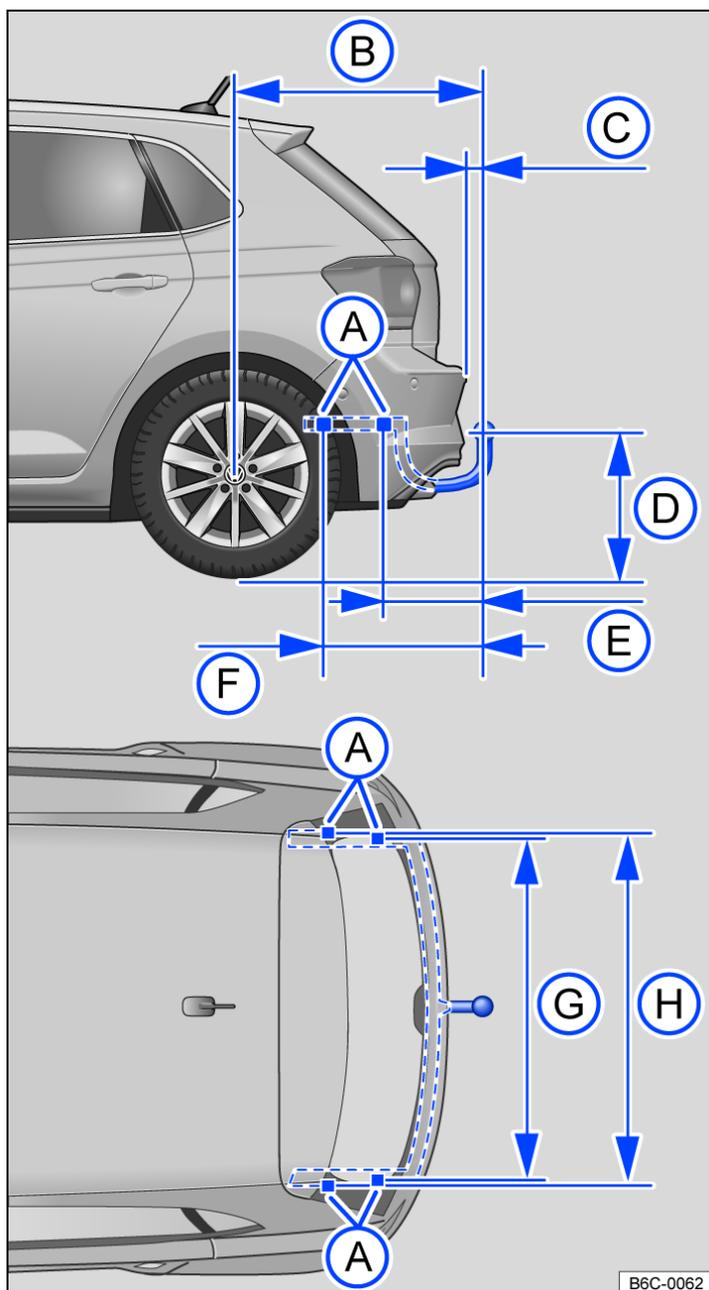

Fig. 1 Dimensions and mounting points for retrofitting a towing bracket.
The dimensions → Fig. 1 must be adhered to when retrofitting a towing bracket. Always observe the minimum distance given from the middle of the ball head (D) to the surface of the road. This also applies when the vehicle is fully laden, including maximum drawbar load.
- (A) Mounting points
- (B) 798 mm
- (C) At least 65 mm
- (D) 350 - 420 mm
- (E) 333 mm